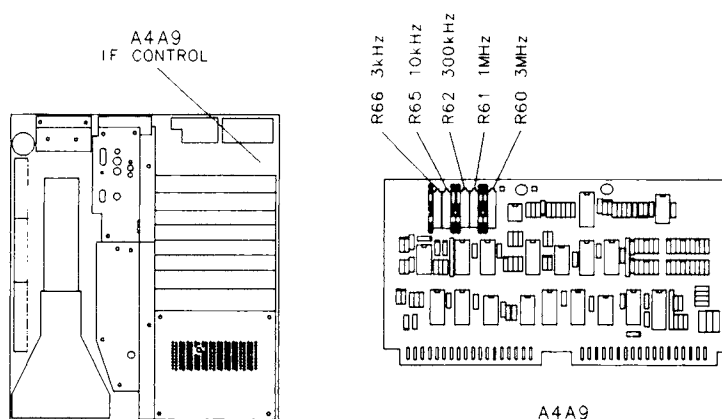

Figure 4-8. Location of Bandwidth Adjustments
Procedure	<ol style="list-style-type: none"> 1. Position the instrument upright and remove the top cover. 2. Set the LINE switch to On and press (2-22 GHz). 3. Connect CAL OUTPUT to RF INPUT. 4. Key in (CENTER FREQUENCY) 100 MHz, (FREQUENCY SPAN) 5 MHz (RES BW) 3 MHz, and (LIN). 5. Press (REFERENCE LEVEL) and adjust the DATA knob to place the signal peak near the top CRT graticule. The signal should be centered about the center line on the graticule. 6. Press (PEAK SEARCH), MKR → (CF), and MARKER (Δ). 7. Using the DATA knob, adjust the marker down one side of the display signal to the 7.3 dB point; CRT MKR Δ annotation indicates 0.430 X 8. Adjust A4A9R60 3 MHz for MKR (Δ) indication of 1.5 MHz while maintaining the marker at 0.430 X using the DATA knob. Refer to Figure 4-8 for the adjustment location. 9. Press MARKER (Δ). Adjust the marker to the 7.3 dB point on the opposite side of the signal (CRT MKR Δ annotation indicates 1.00 X. There are now two markers; one on each side of the signal at the 7.3 dB point. 10. CRT MKR Δ annotation now indicates the impulse bandwidth of the 3 MHz bandwidth. Impulse bandwidth should be 3.00 MHz ±0.60 MHz 11. Key in (RES BW) 1 MHz, (FREQUENCY SPAN) 2 MHz, (PEAK SEARCH), and (MKR → CF). If necessary, readjust by pressing (REFERENCE LEVEL) and using the DATA knob to place the signal peak near the top of the graticule. 12. Press MARKER (OFF) then MARKER (Δ).
- Adjust A4A9R61 1 MHz for MKR Δ indication of 500 kHz while maintaining the marker at 0.430 X using the DATA knob. Refer to Figure 4-8 for the adjustment location.
- Adjust A4A9R62 300 kHz for MKR Δ indication of 150 kHz while maintaining marker at 0.430 X using the data knob. Refer to Figure 4-8 for location of adjustment.
26. Adjust A4A9R65 10 kHz for MKR **Δ** indication of 5.00 kHz while maintaining the marker at 0.430 X using the DATA knob. Refer to Figure 4-8 for the adjustment location.
32. Adjust A4A9R66 3 kHz for MKR **Δ** indication of 1.5 kHz while maintaining the marker at 0.430 X using the DATA knob. Refer to Figure 4-8 for the adjustment location.